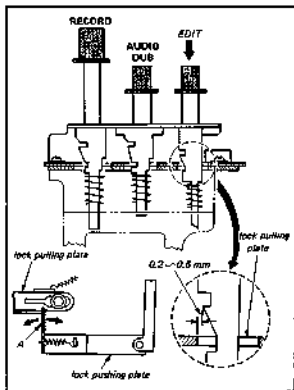

Fig. 4-20.
- If the latch does not operate correctly, proceed as follows. In the STOP mode, make sure that the Edit button is clear of the Set Lock Bar. Clearance should be between 0.1 mm and 0.3 mm. Refer to Fig. 4-20. Bend Section A with a pair of pliers as needed to obtain the correct spacing.